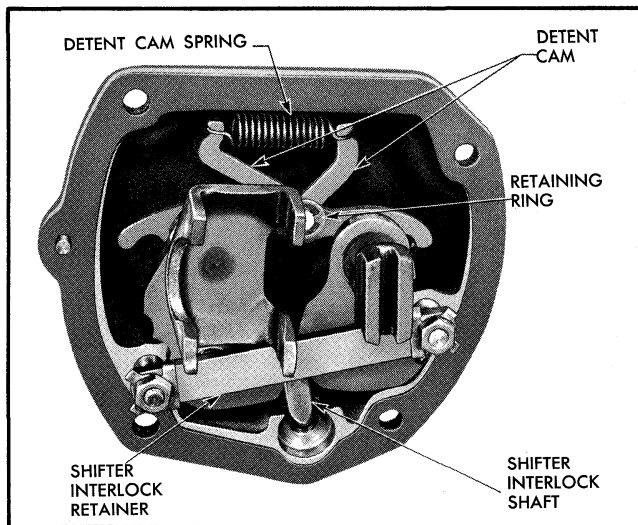

Fig. 7-14 Transmission Side Cover - Inner View
1. Remove nuts and locks from shifter interlock retainer and remove retainer (Fig. 7-14).
2. Remove detent cam spring to release detent cam (Fig. 7-14).
4. Remove retaining ring and remove detent cam (Fig. 7-14).